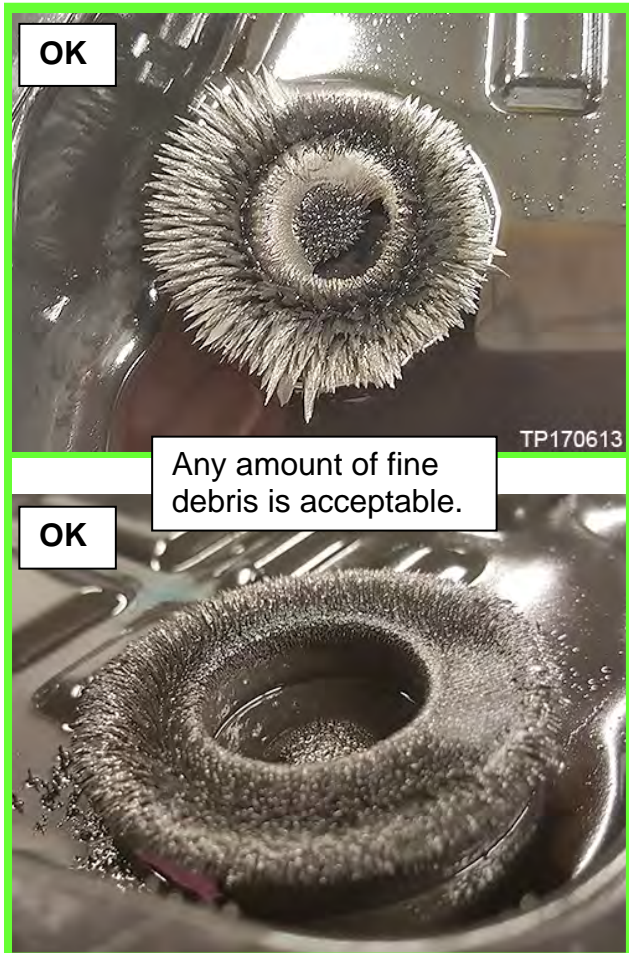

Figure 3B
- Figure 3B is **OK** – Magnets with fine debris or sludge in any amount.